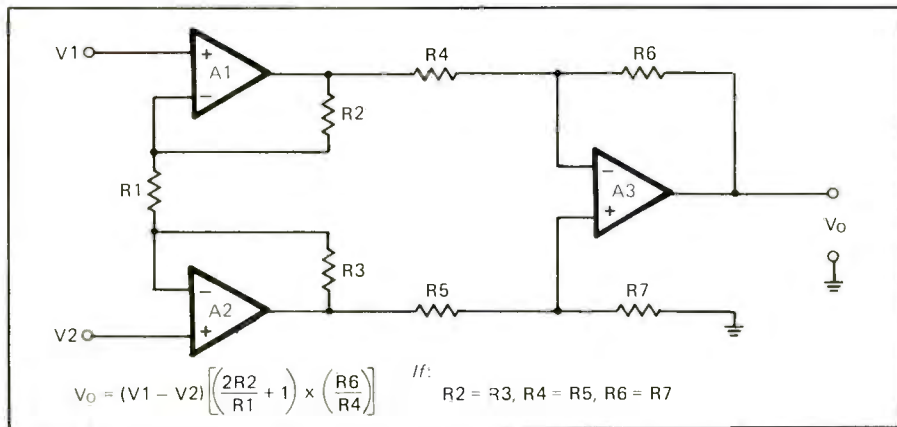

Fig. 2. The instrumentation amplifier provides an extremely high input impedance, high possible gain, and easy design. The gain equation is shown at bottom.
tion Amplifier (IA) circuit shown in Fig. 2. The IA provides an extremely high input impedance (similar to the noninverting follower circuits), a high possible gain, and easy design. The gain equation for this circuit is shown in Fig. 2.
The IA circuit shown in Fig. 2 consists of two sections: A1 - A2 and A3. Amplifier A3 forms a simple dc differential amplifier such as shown in Fig. 2, and obeys the same rules. The A1 - A2 amplifier is a differential-noninverting-input-with-differential-output stage. By cascading these two forms of amplifier we obtain the instrumentation amplifier.
In many cases, where variable or adjustable gain is required, we leave all resistors constant except $R1$. We must be careful, however, because $R1$ appears in the denominator of the equation in Fig. 2. This location means that the gain can be very, very large when the resistance of $R1$ drops close to zero. In some cases, the designer will place a small-value fixed resistor in series with a variable resistor (potentiometer) to adjust gain, but limit it to a maximum.
For a long time, the only additional advances were that op-amps became better and better (they became nearer the ideal op-amp of textbooks). While that was an exciting development, it was not a really new device. The big breakthrough came when the analog device designers made an integrated-circuit version of Fig. 2, the integrated-circuit instrumentation amplifier (ICIA).
The INA-101 is basically a low-noise, low-input bias current integrated circuit version of the IA of Fig. 2. The resistors labeled R2 and R3 in Fig. 2 are 20 kohms, hence the "40k" term in Fig. 4.